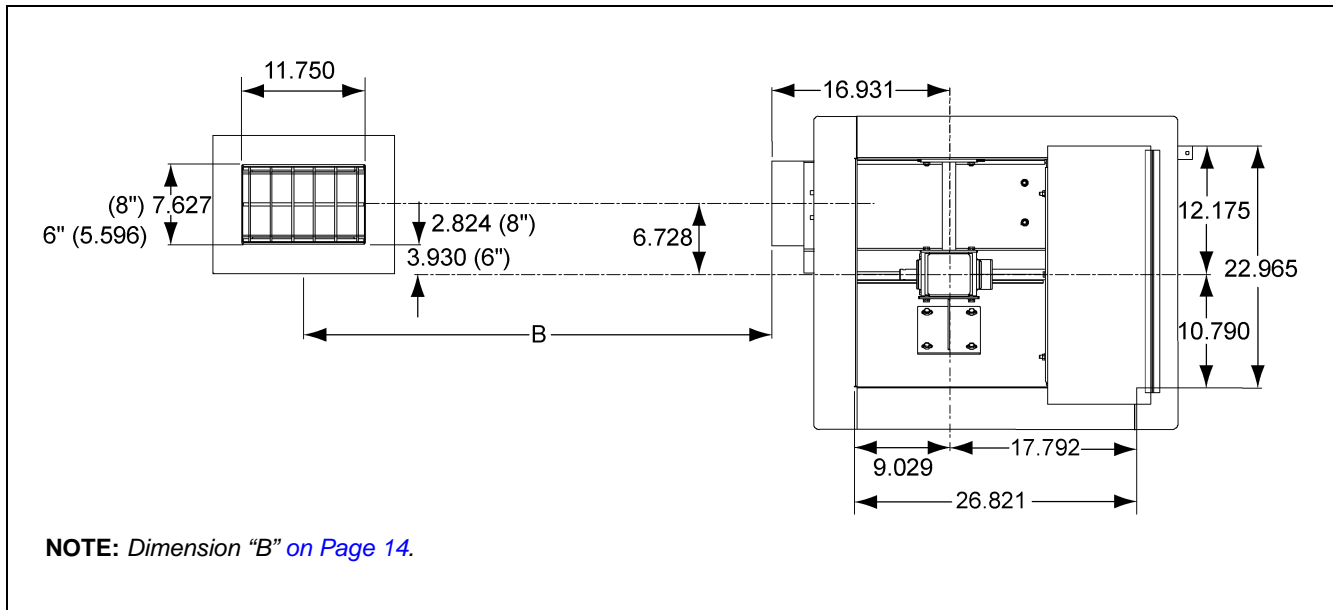

**Figure 4A** Concrete Trench Layout for 6", 8" and 10" Power Sweeps
**NOTE:** The company does not recommend setting the direct gear drive bin sweep auger unit in concrete. If installing a unit flush with a concrete floor, we recommend that the unit be installed in a preformed trench. Use Figure 4A below.